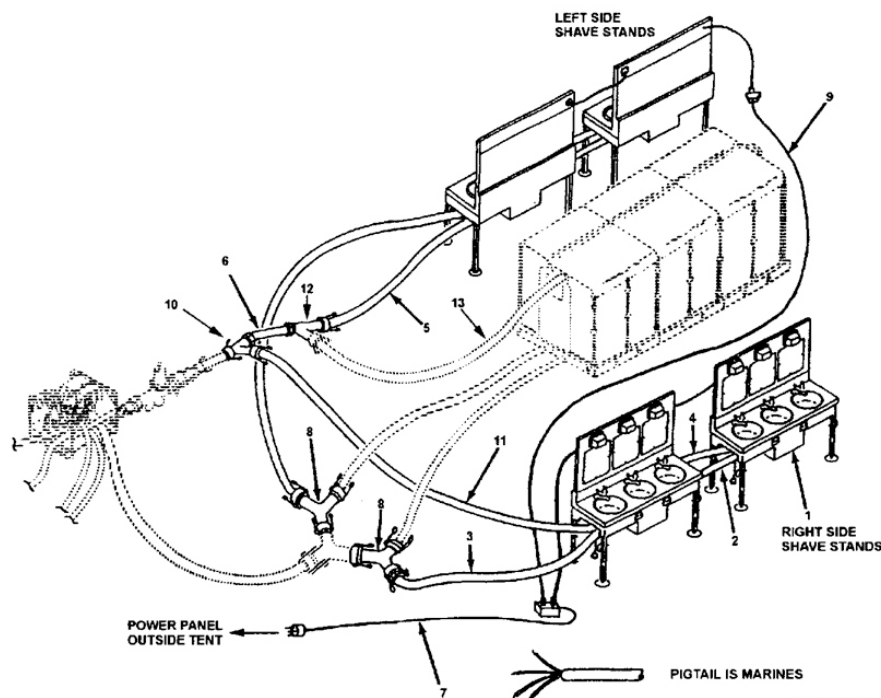

Figure 2-48. Completed facility.
Follow the remaining steps for completing the assembly of the shower facility. When you finish, it will look like the one shown in figure 2-48.
1. Route one end of the long main water supply hose (fig. 2-48, callout 9) through the canvas cover, and connect it to the first supply manifold. Connect the opposite of this hose to the quick-connect fitting on the effluent side of the temperature regulator (fig. 2-48, callout 21).
2. Lay the other long main water supply hose (fig. 2-48, callout 9) from the water source to the pump assembly and install the strainer (fig. 2-48, callout 16) onto the end that will go into the water supply. Put the strainer into the water supply and connect the opposite end of hose to the suction inlet of the water pump (in the pump assembly frame).
3. Install the “Y” adapter (fig. 2-48, callout 2) on to the two main-drain runs coming out of the shower floor. Route one main-drain hose (fig. 2-48, callout 15) from the “Y” adapter to drain pump inlet on pump assembly. Connect the appropriate end of the other main-drain hose (fig. 2-48, callout 15), from the drain pump discharge, and lay the hose to the point of discharge, downstream from the water supply intake.
Connect the pump assembly to the boiler by connecting the water supply hose from the water pump discharge to the M-80 boiler inlet (fig. 2-48, callout 10). This is the hose that will supply the boiler with cold water. Finally, close the loop by connecting the water supply hose from the boiler discharge valve to the temperature regulator inlet in the pump assembly (fig. 2-48, callout 13). This hose provides heated water back to the temperature regulator, which will blend the heated water with some cold supply water (diverted from the water pump) to provide blended water to the shower.